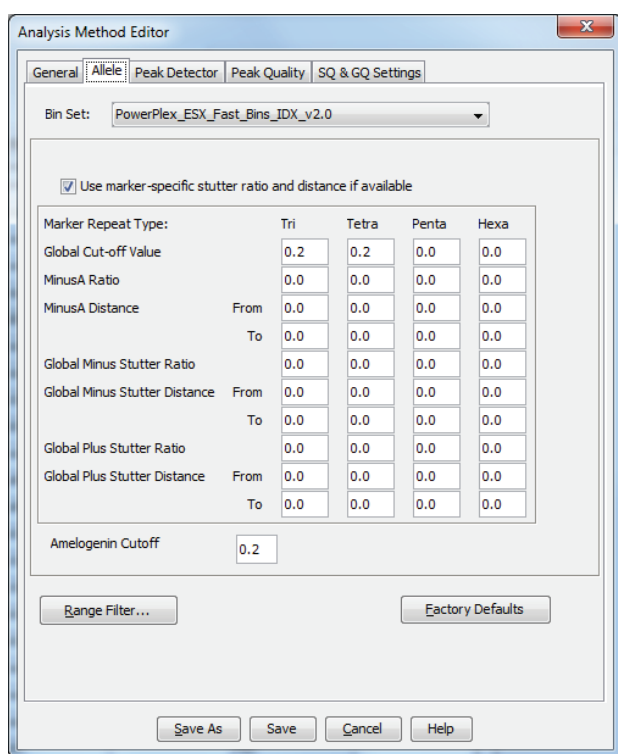

Figure 25. The GeneMapper® ID-X 'Allele' tab with settings for using a 20% peak filter.
6. Select the 'Allele' tab (Figure 25).
8. Ensure that the "Use marker-specific stutter ratio and distance if available" box is checked. Doing this will assign locus-specific stutter files and distances from the imported stutter file. Ensure that the appropriate global filter is applied to this analysis method. For example, for a 20% filter, enter "0.20" for the Global Cut-off Value for Tri and Tetra repeats (Figure 25).